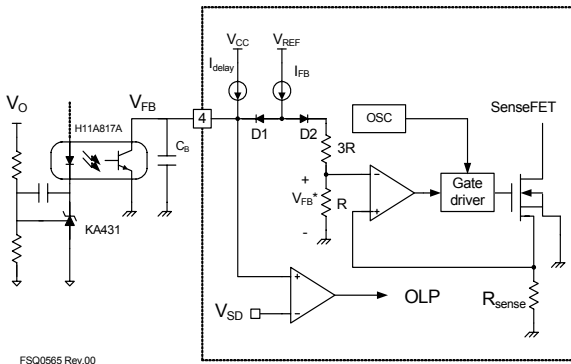

Figure 24. Pulse-Width-Modulation (PWM) Circuit
**2. Feedback Control:** power switch employs current-mode control, as shown in Figure 24. An opto-coupler (such as the FOD817A) and shunt regulator (such as the KA431) are typically used to implement the feedback network. Comparing the feedback voltage with the voltage across the  $R_{sense}$  resistor makes it possible to control the switching duty cycle. When the reference pin voltage of the shunt regulator exceeds the internal reference voltage of 2.5V, the opto-coupler LED current increases, pulling down the feedback voltage and reducing the duty cycle. This typically happens when the input voltage is increased or the output load is decreased.
**2.1 Pulse-by-Pulse Current Limit:** Because current-mode control is employed, the peak current through the SenseFET is limited by the inverting input of PWM comparator ( $V_{FB}^*$ ), as shown in Figure 24. Assuming that the 0.9mA current source flows only through the internal resistor ( $3R + R = 2.8k$ ), the cathode voltage of diode D2 is about 2.5V. Since D1 is blocked when the feedback voltage ( $V_{FB}$ ) exceeds 2.5V, the maximum voltage of the cathode of D2 is clamped at this voltage, clamping  $V_{FB}^*$ . Therefore, the peak value of the current through the SenseFET is limited.